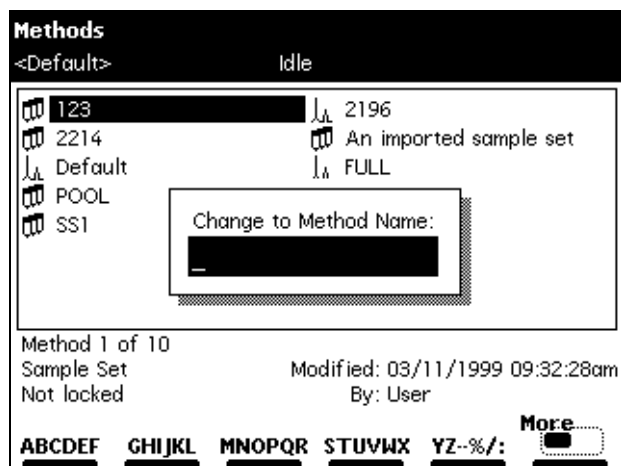

Figure 5-7 Change to Method Name Dialog Box
2. Press the **More** screen key until the Rename screen key is displayed, then press the **Rename** screen key. The Change to Method Name dialog box appears (Figure 5-7).